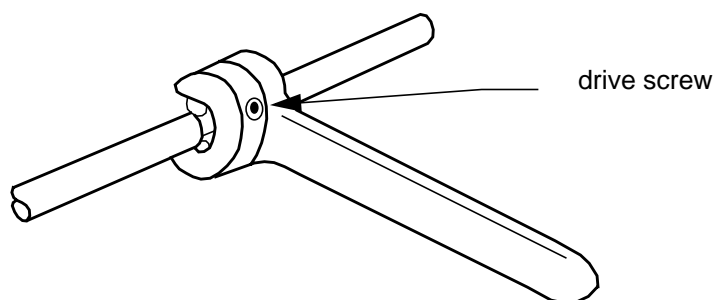

Figure 4 - Chipless Tube Cutter
Step 1. Loosen the drive screw on the chipless tube cutter using a suitable hex wrench and locate the cutter head on the tube in the desired cutting position (see Figure 4).